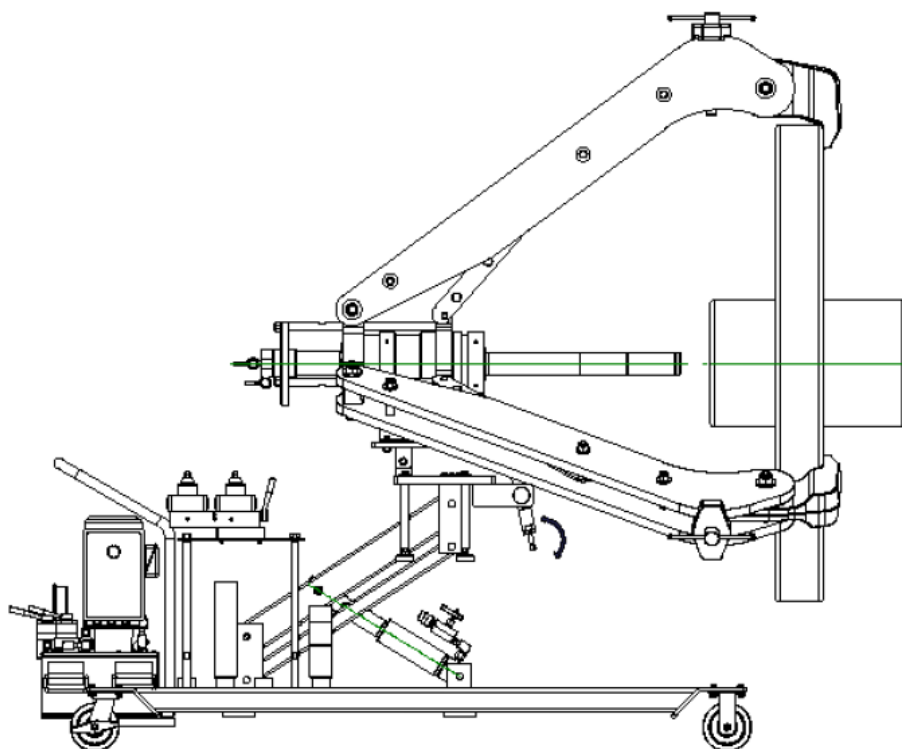

Figure 3 – Adjusting the Puller Head
- 5.3.2 Rotate the round handle under the puller in a clockwise direction when angled down and in a counter clockwise direction when angled up to ensure the puller head is on the same centreline as the object to be pulled (see Figure 3).